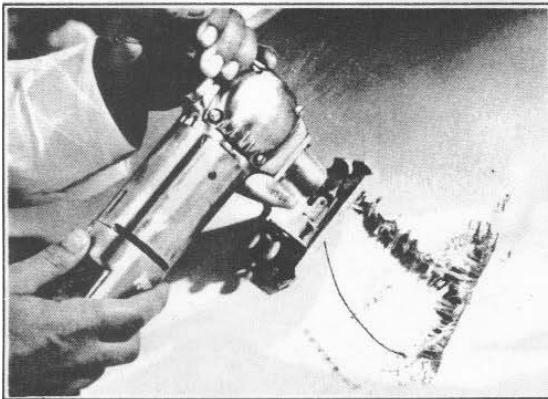

Figure 2-72. Sawing Out Damaged Area
2. Prepare injured area by cutting back fractured material to the sound part of the material. A keyhole or electric saber saw can be used to cut out the ragged edges. See Figure 2-72.